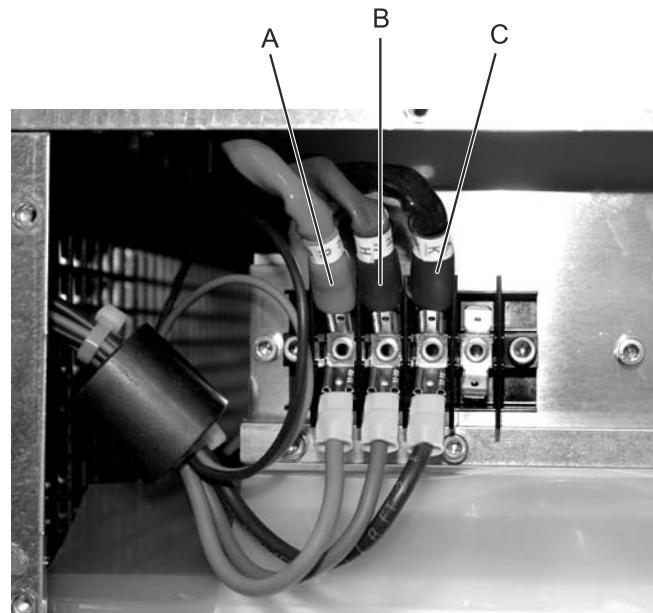

Figure 45: Thyatron connections at terminal strip
5. Disconnect the thyatron connection leads from the thyatron terminal strip (see Figure 45, A, B and C).
31. Re-connect the thyratron connection that leads to the thyratron terminal strip (see Figure 45).